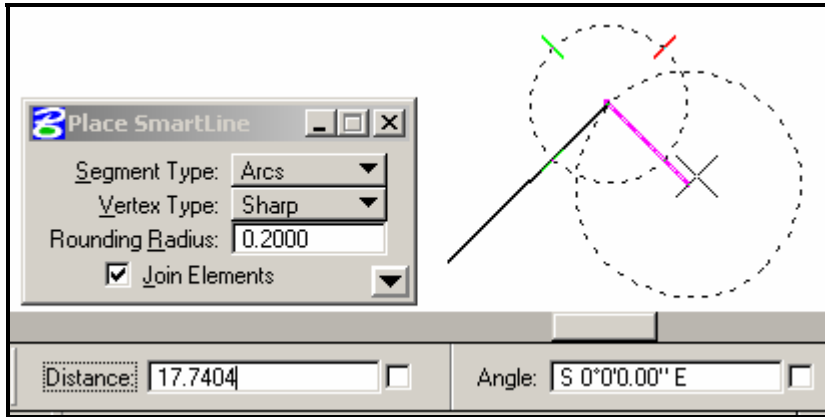

Figure 22-29: Swap to Smartline Arcs
- ♪ Use the **Tilde** key (~) to toggle *Smartline* from **Segment Type Lines** to **Segment Type Arcs** (Figure 22-29).